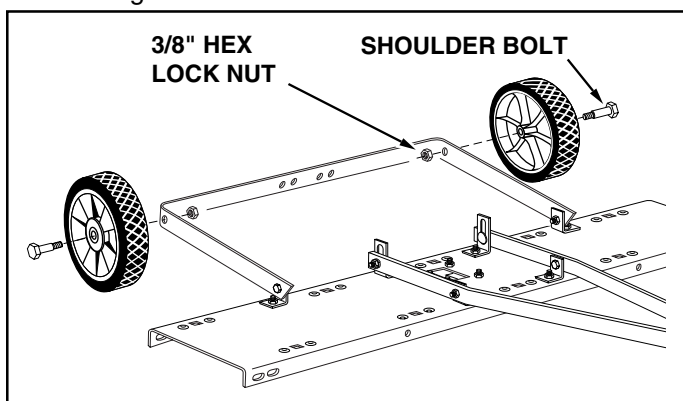

FIGURE 6
12. Assemble the wheels to the axle bracket using two shoulder bolts and two 3/8" hex lock nuts. **Tighten**. See figure 6.